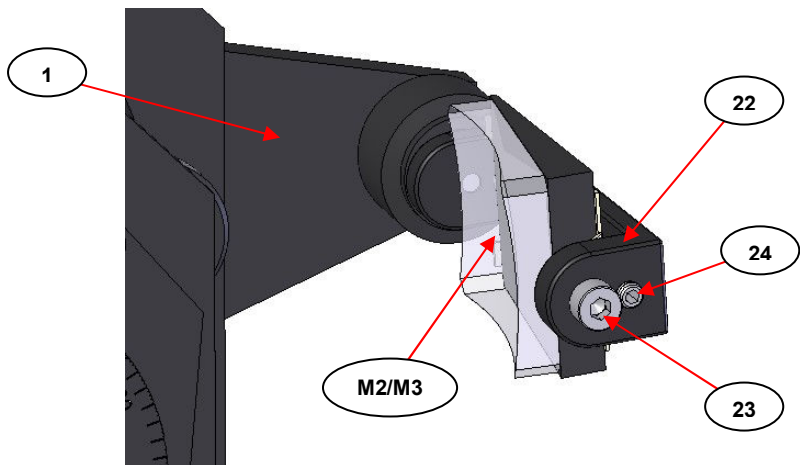

Fig 14. Movable Mirror Assembly on the Butterfly Arm (1)
At the end of each butterfly arm (1) there is a movable mirror carriage assembly (22). The mirrors for this assembly, identified as (M2) and (M3), are rectangular in shape with a concave face for focusing a beam of light to the sample surface centre spot position. The mirrors (M2) and (M3) can be adjusted for their rotation via the M4 x 5mm cap head screw (23) and for their plane of tilt angle via the M4 x 12mm cone pointed grub screw (24) to direct the beam of light accordingly to the centre spot position for the sample. (See Fig 14.)
- 5) With the two butterfly arms (**1**) set to a 45° incident angle and the reference mirror (**16**) at the correct surface level height, some throughput of signal through the beam path of the accessory should be detected for a signal passing through the spectrometer sample compartment. To optimize an energy throughput signal, the movable mirrors (**M2**) and (**M3**) at the end of the butterfly arms (**1**) will need to be adjusted. (See **Fig 14.** – page 29.)